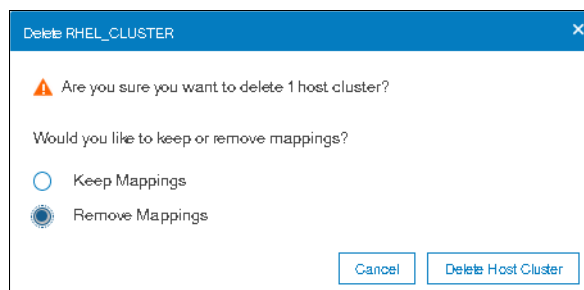

Figure 5-111 Remove mappings after host cluster deletion
4. Select the desired mappings via the radio button. In our example we chose to **Remove Mappings** as shown in Figure 5-111.